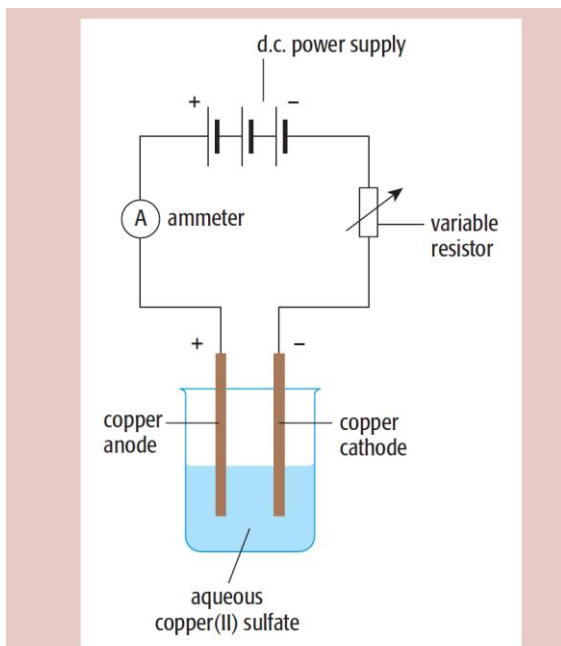

Figure 20.3 Apparatus for calculating the mass of copper deposited during the electrolysis of aqueous copper(II) sulfate.
- arrange the apparatus as shown in **Figure 20.3**; the variable resistor is used to keep the current constant